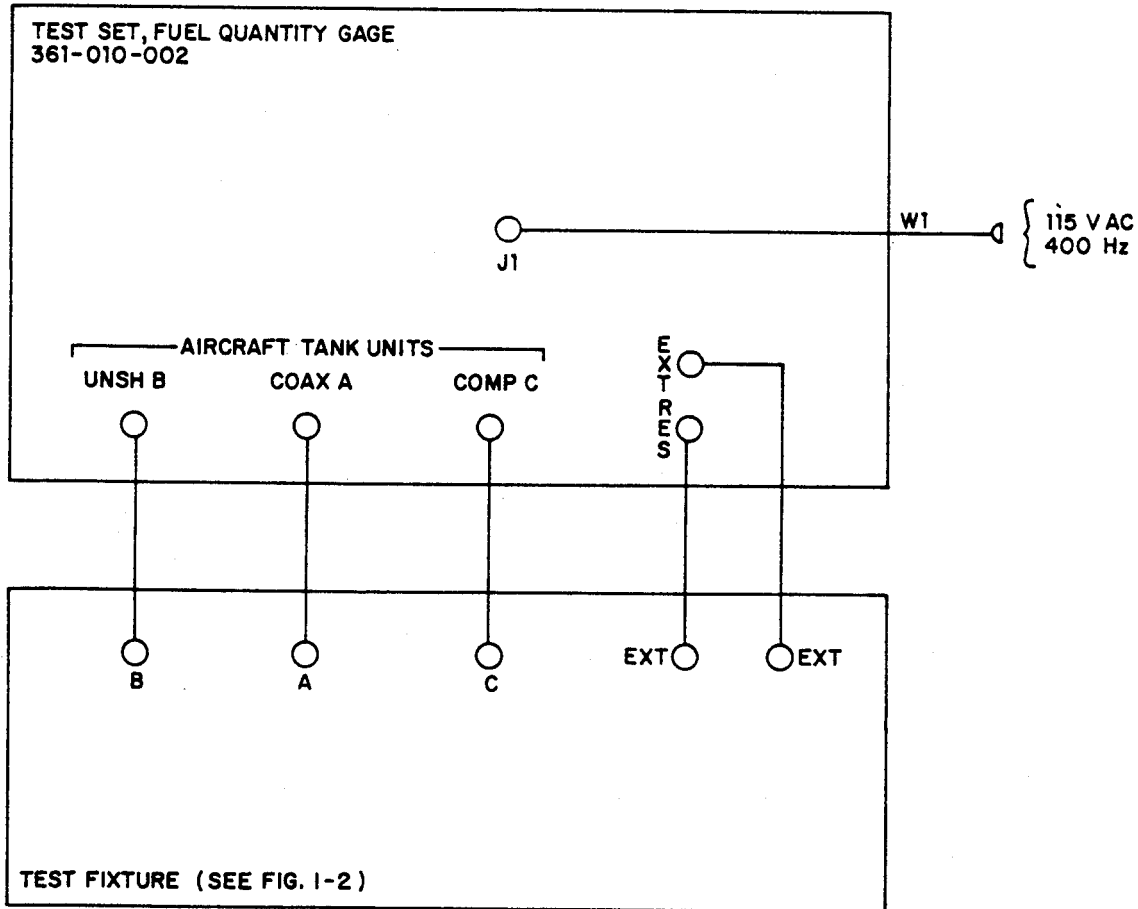

Figure 4-3. Resistance measurement checkout, setup diagram
(1) Connect equipment as shown in figure 4-3.